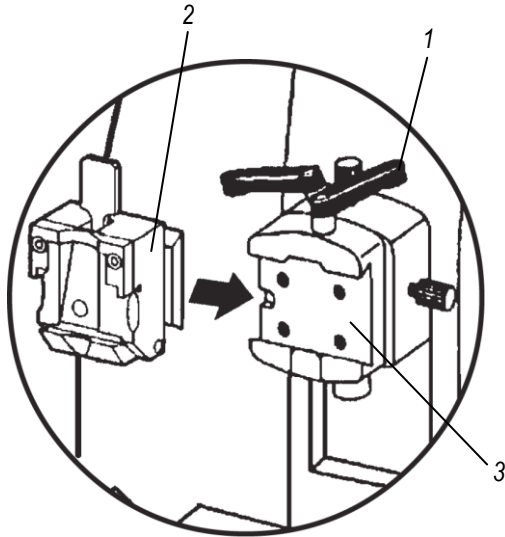

Fig. 3-1
Refer to Fig. 3-1 on inserting the specimen clamp.
- To release the clamp, rotate the clamping lever (1) counterclockwise (Fig. 3-1).